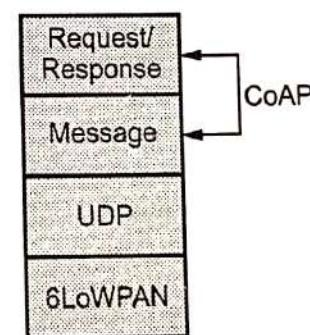

Fig. 3.1.1 CoAP protocol stack
- Fig. 3.1.1 shows CoAP protocol stack.